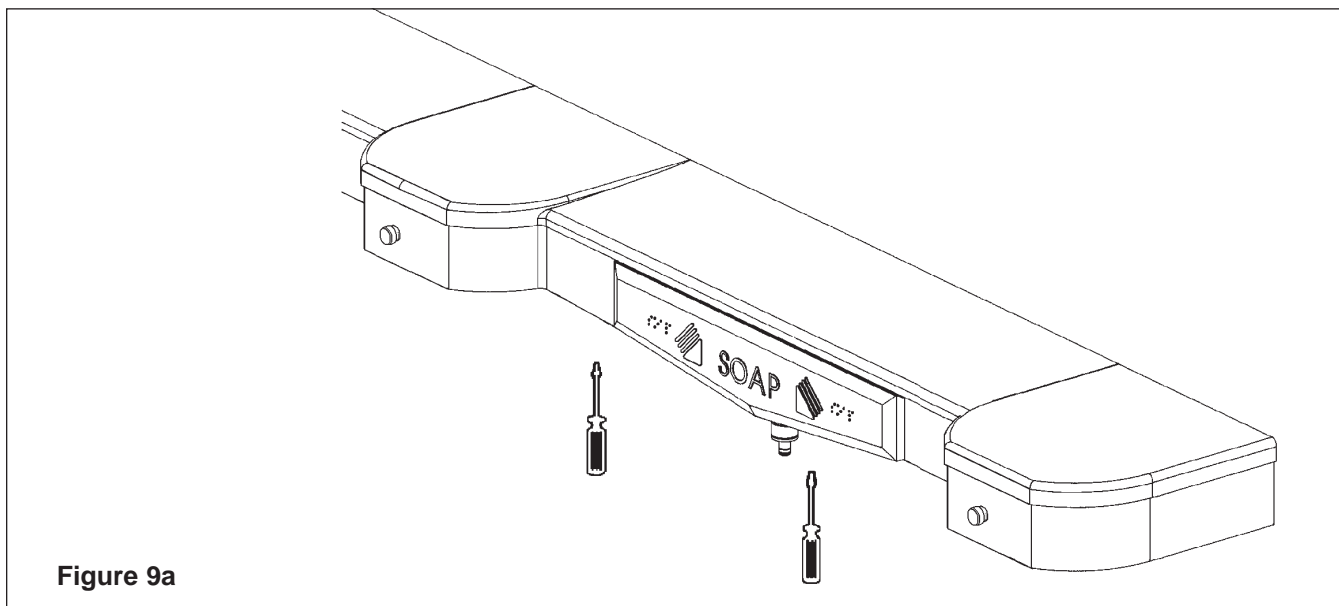

Figure 9a
1. Using two screwdrivers (or similar tool), push up on the release tabs located beneath each soap dispenser and pull out the soap tanks from the sprayhead (see Figure 9a).